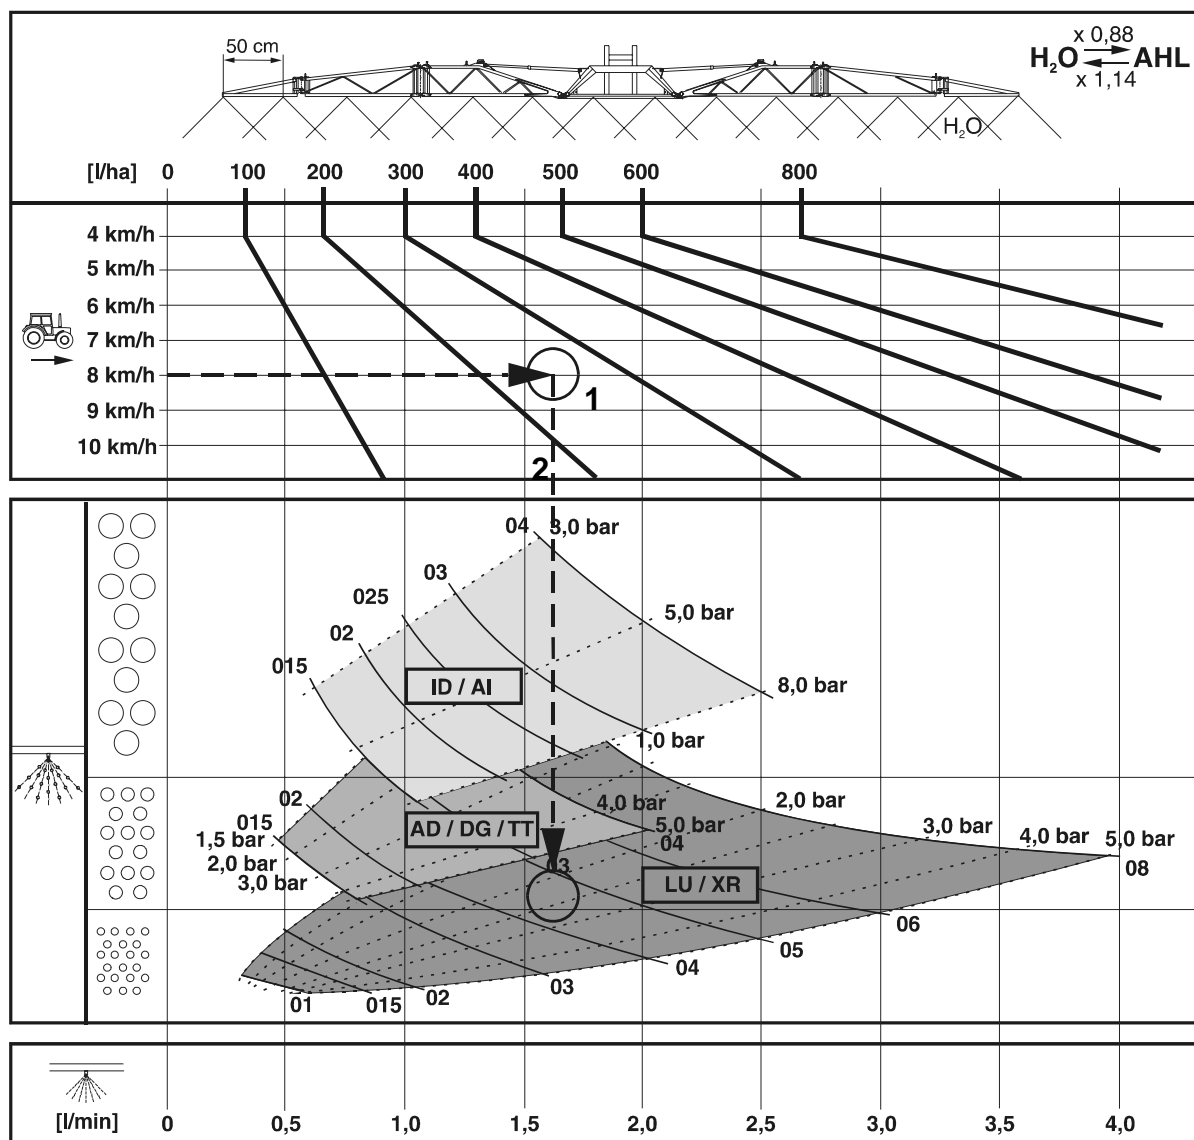

Fig. 227
- The Fig. 227 serves for selecting the correct nozzle type. The nozzle type is determined by
1. Determine the operational point (Fig. 227/1) for the required spray rate (**250 l/ha**) and the intended forward speed (**8 k.p.h**).
2. Plumb at the operational point (Fig. 227/1) a vertical line (Fig. 227/2) downwards. Depending on the position of the operational point this line crosses the input/output maps of the different nozzle types.